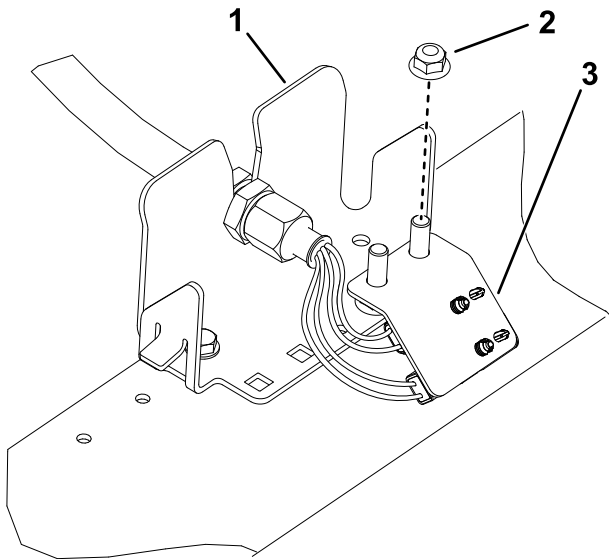
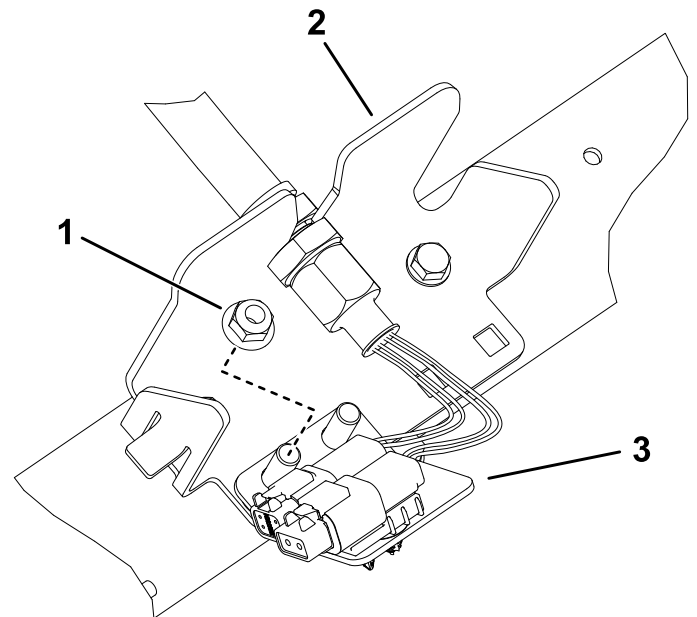

Figure 25
Figure 28
- Repeat the procedure on the remaining 4 bulkhead locations as shown in Figure 25 through Figure 28.